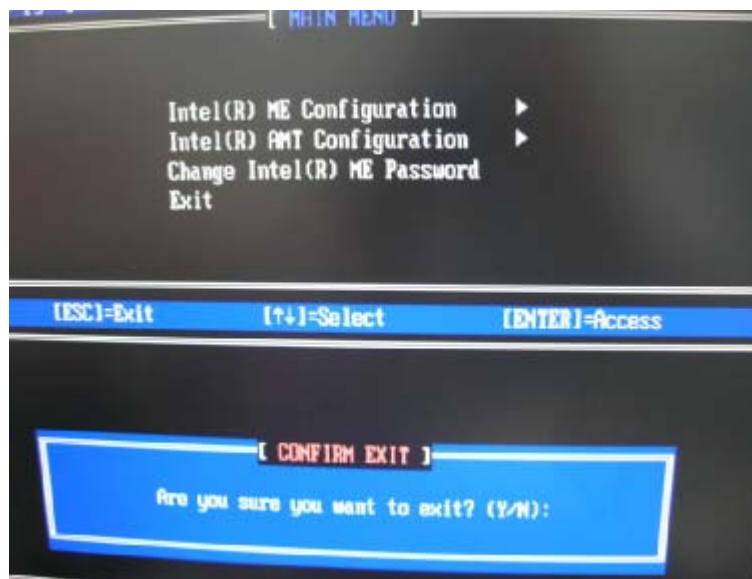

Figure 7-10: Exit
Step 12: To exit the Intel® MEBx, return to the main menu and select **Exit**. (Figure 7-10)